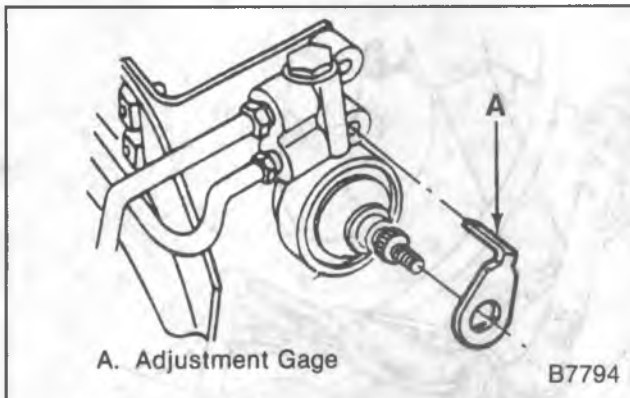

Figure 13—Installing Adjustment Gage
2. Remove nut (48) from the valve shaft.
3. Remove lever (49).
5. Rotate the valve shaft to permit the installation of the adjustment gage (figure 13).
6. Install lever (49).